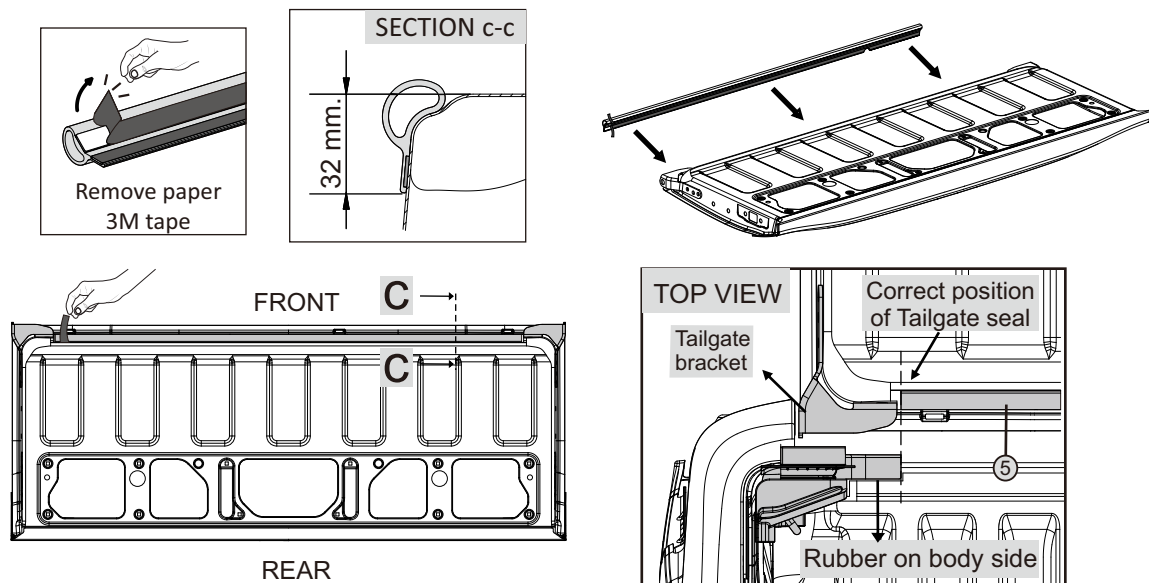

Figure 11
11. Remove some of release papers and assemble with reference to Figure 11.
Remove release paper completely after assemble Tailgate seal with reference to Figure 11.